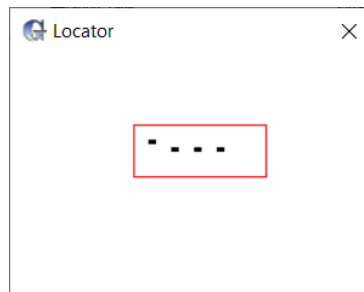

Figure 1-4 – Locator Window
7. **Zoom in by using the Locator.** This is a simple plant with a large amount of white space on the drawing board, and zooming will allow us to see the objects on the drawing board more clearly. The **Locator** can be used to zoom in on an area of interest while leaving white space for additional objects. The **Locator** can be accessed by going to **View > Zoom**. The **Locator** window will be displayed as shown in **Figure 1-4**.